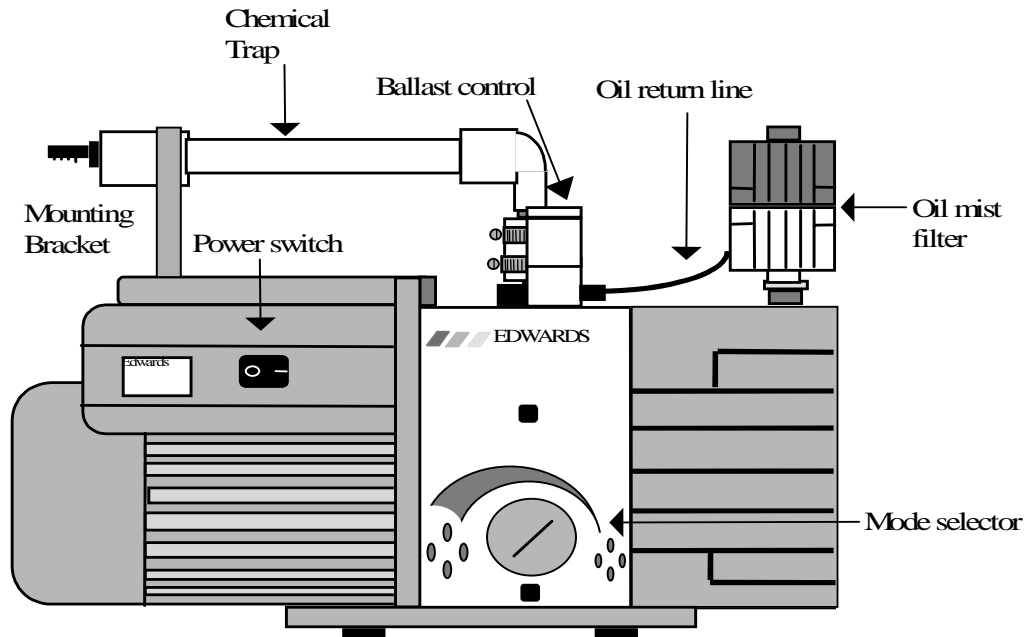
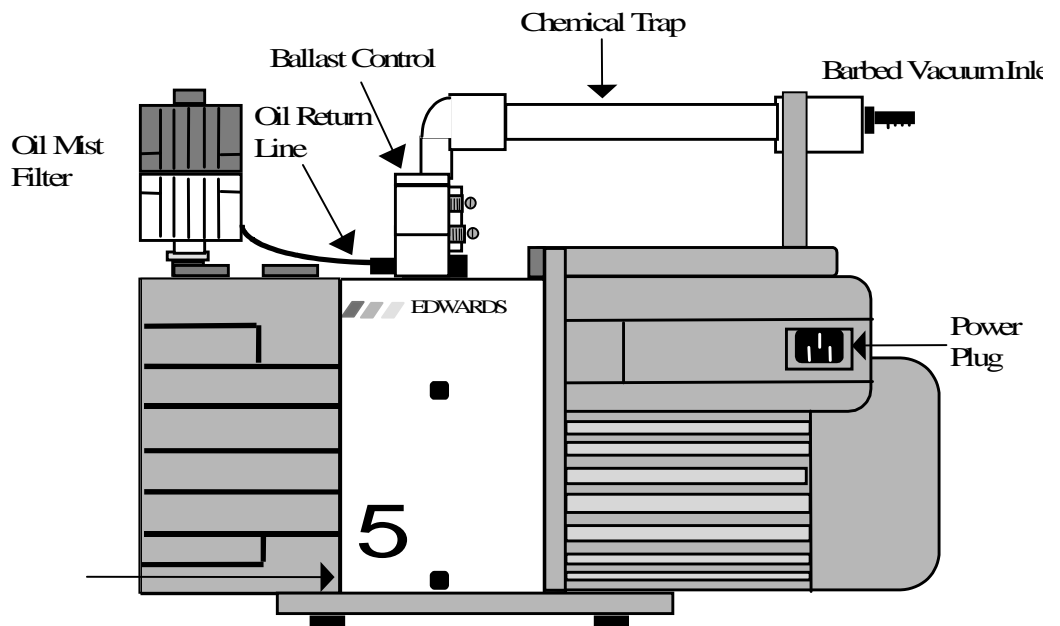

Figure 11 RV5 Oil-Sealed Vacuum Pump and Associated Traps (Front Side)
Figure 12 RV5 Oil-Sealed Vacuum Pump and Associated Traps (Back Side)
- 1 Install the chemical trap mounting bracket to the top of the pump with the screws and provided wrench. The chemical trap is a white plastic cylinder approximately 1 foot (30 cm) in length by 1.5 inches in (3.8 cm) diameter fitted with a barbed fitting on both ends (see Figure 11).
- 8 Press the trap into the mounting bracket and the 2 inches of Tygon vacuum hose (see Figure 11 and Figure 12).
- 15 Place the oil mist filter onto the o-ring on the pump exhaust port. Install the filter so that the gray half is above the white half of the filter (see Figure 11 and Figure 12).
- 16 Position the oil mist filter so the drain adapter points toward the gas ballast inlet (see Figure 11 and Figure 12).